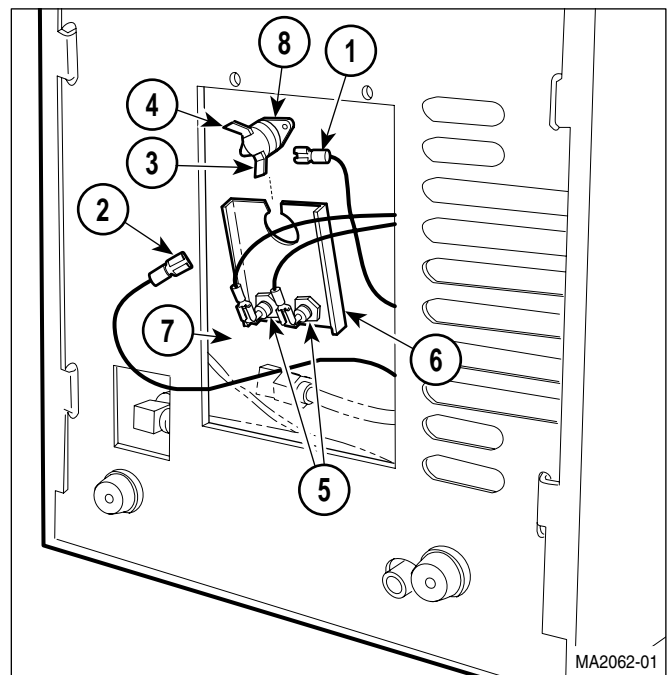

Figure 4-18. Thermostat Removal / Installation
- (1) Drain water from condensing tank.
- (2) Remove base inspection cover (Refer to para 4.6).
- (3) Tag and disconnect wires (1 and 2, Figure 4-18) from terminals (3 and 4).
- (4) Loosen two nuts (5) and pull top of bracket (6) approximately 1 in. from pressure vessel (7).
- (5) Rotate terminals (3 and 4) to a vertical position and slide thermostat (8) upward and out of bracket (6).